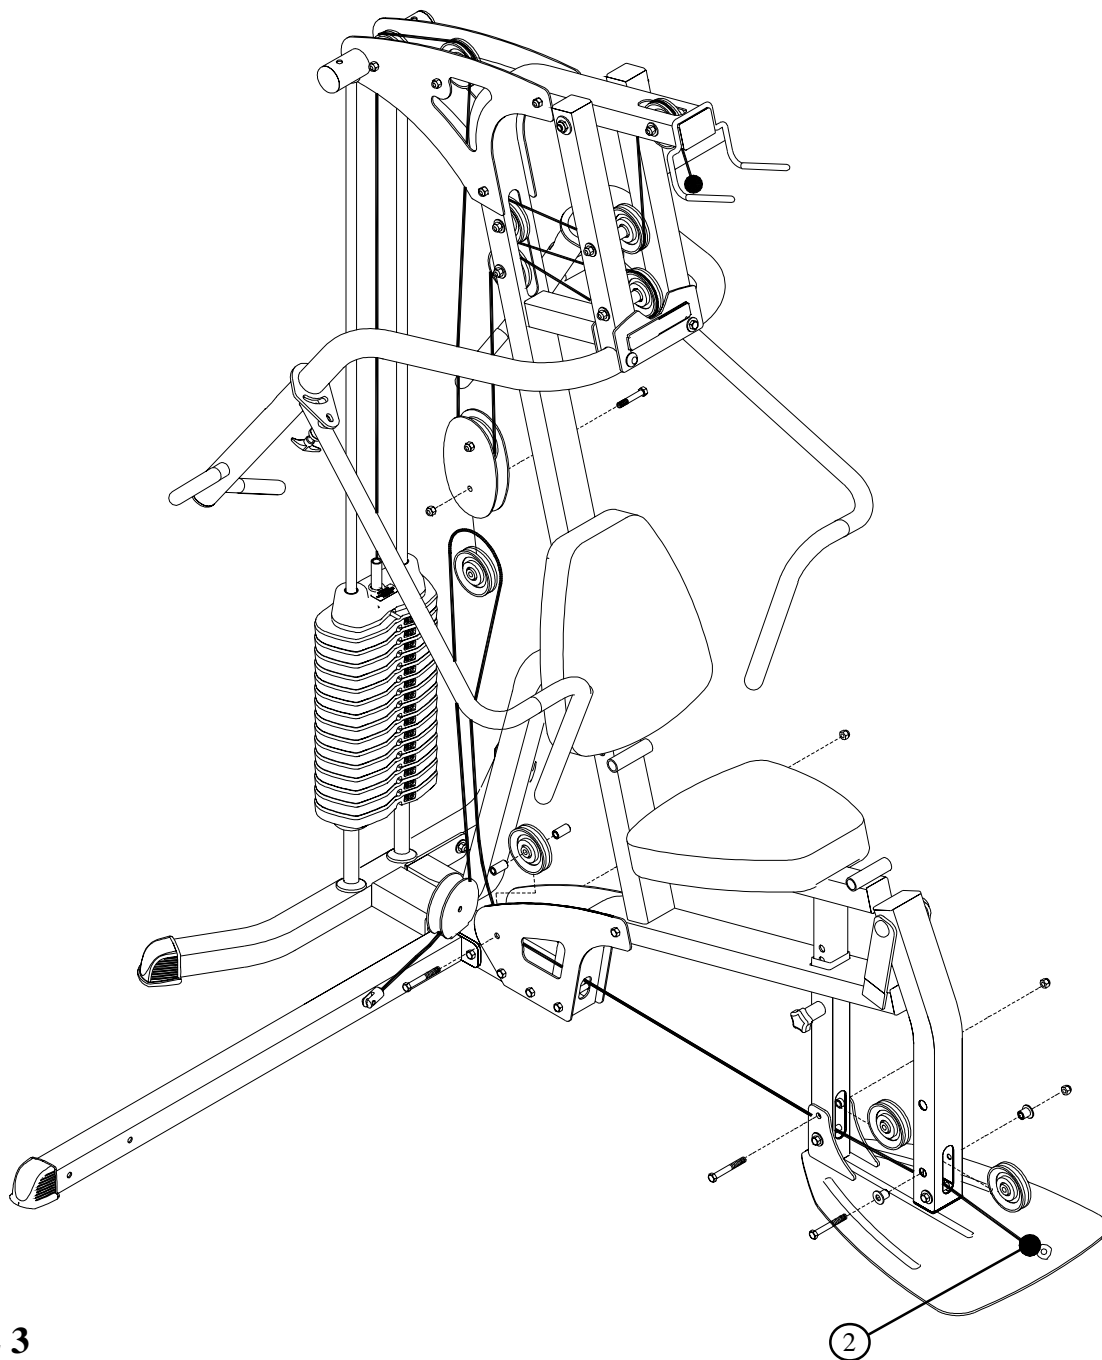

FIGURE 3
- Assemble the new LEG PRESS CABLE (2) using the previously removed bolts as shown in FIGURE 3. (NOTE: Make sure the LEG PRESS CABLE is running in the grooves of all pulleys and above the retaining bolts.)